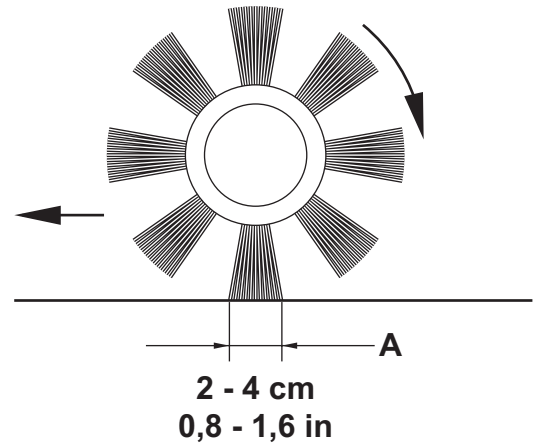

Figure 6
- Check that the main broom print (A, Fig. 6), along its length, is 0.8 to 1.6 in (2 to 4 cm) wide.
If it is not possible to adjust the print (A, Fig. 6) properly, because the pressure on the floor at the ends of the broom is different, refer to the Service Manual.